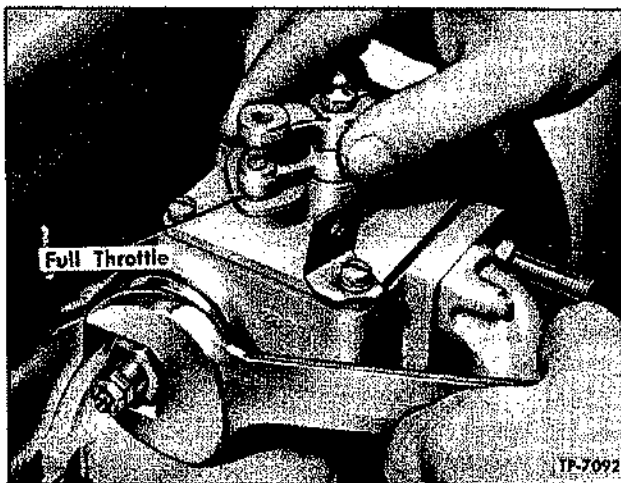

Figure 47—Adjusting High Speed
Turn high speed adjusting screw (39) until desired (see table) speed is obtained with throttle lever in wide open position (fig. 47). Lock nut (37).